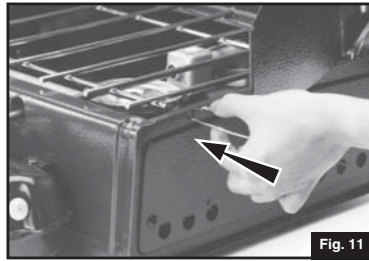

Fig. 11
- Swing WIND Baffles out and insert the WIRE CLIPS into slots in ends of stove. (Fig. 11)